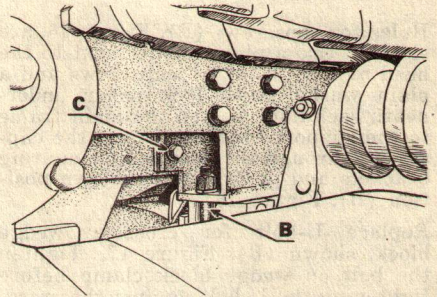

Figure 17 Frame on Crossbar Wedge
Replace U-bolt for crossbar wedge block, shown (B), Figure 17. Tighten the bolt on wedge block clamp before tightening the U-bolt against the crossbar.